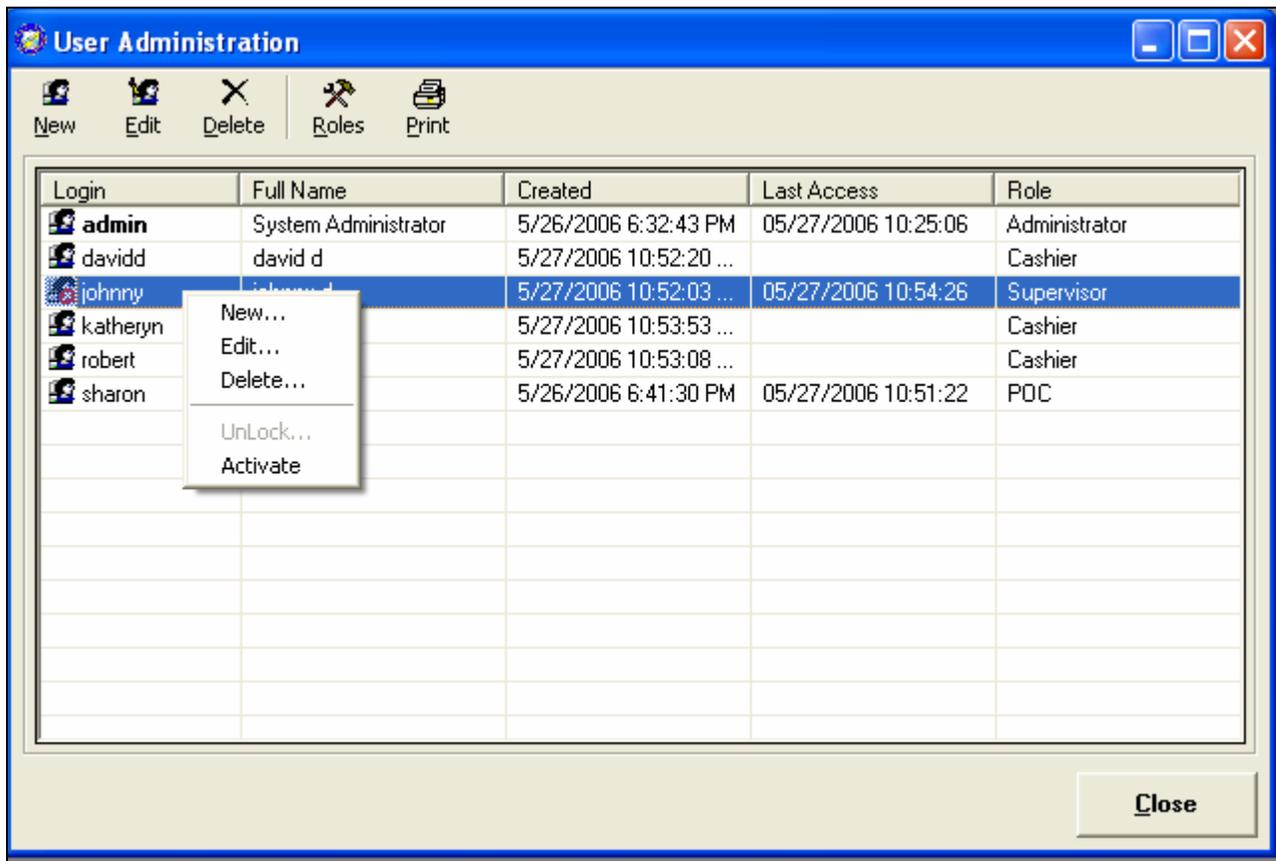

Figure 3.22
3. Right click the row of the Login whom you wish to activate. A drop down menu will appear with choices as seen in Figure 3.22.